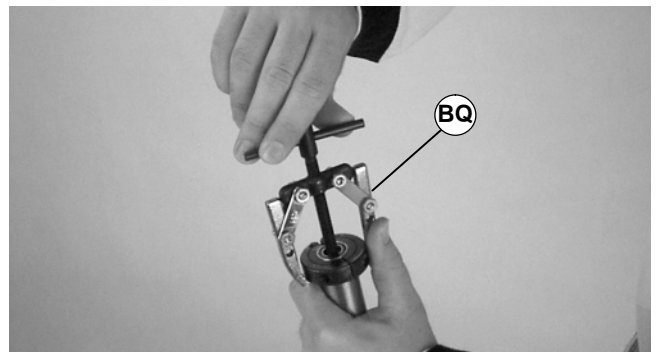

Figure 48
3. Using a puller (BQ of Figure 48), remove and discard bearing(s).